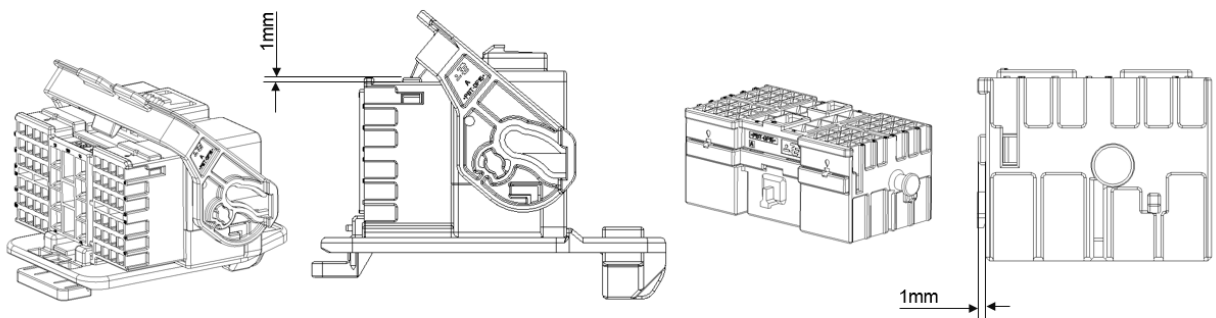

Fig. 10
- (1) Retainer should be Pre-lock status. If TPA is Final lock status, the TML can't be inserted (See Fig.10).